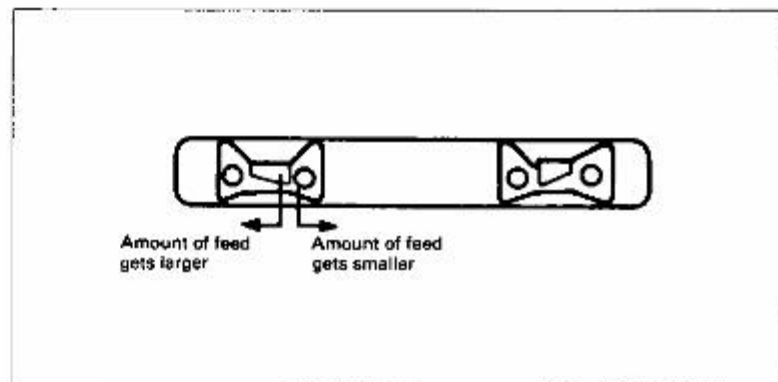

Fig. 5-8
- 3-2. Loosen the feed hook clamping screw and move it inward and the amount of feed will get smaller but move it outward the amount of feed will get larger. (Fig. 5-8).